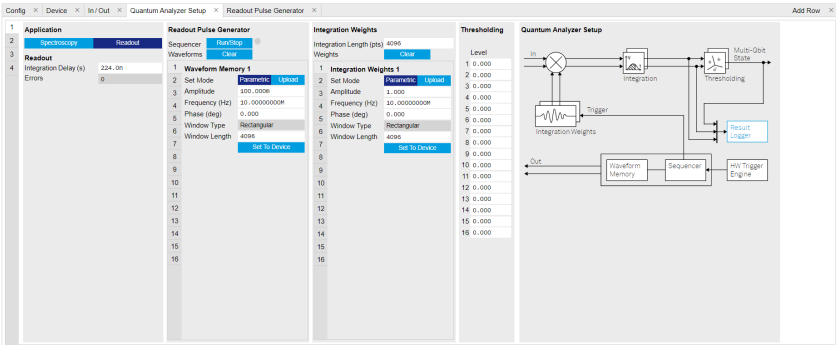

Figure 4.24: Configurations on QA Setup Tab.
- Signal generation is defined on QA Setup Tab, see Figure 4.24 and Table 4.16. Since we are only interested in the signal before integration, the settings for integration weights is not needed.